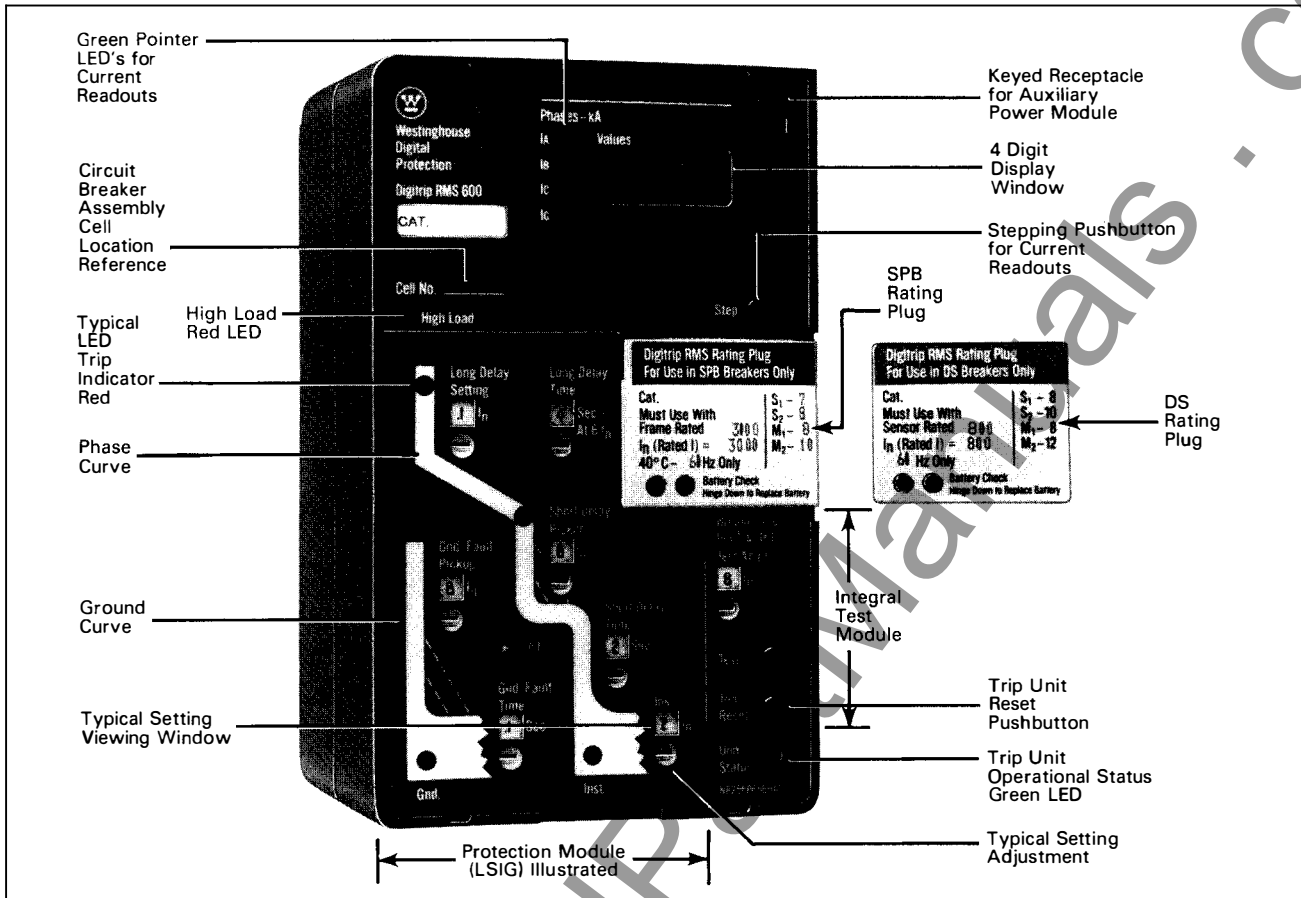

Fig. 1 Typical Digitrip RMS 600 Trip Unit with Rating Plug Installed
The Digitrip RMS 600 Trip Unit, illustrated in Fig. 1, is a micro-processor based type trip unit suitable for use in type SPB Systems Pow-R circuit breakers and types DS and DSL low voltage AC power circuit breakers and Series C® R-Frame molded case circuit breaker.
In addition to the protection function, the Digitrip RMS 600 Trip Unit is equipped with a four-digit, alpha-numeric readout display, three phase and one ground (when supplied) current pointer green LEDs along with a stepping pushbutton as illustrated in Figs. 1 and 2. A Power/Relay module is included to provide control power for operating the readout display and internally mounted signal relays. The signal relays provide contacts for three remote mode of trip indicators (long delay, short circuit, ground fault) and a High-Load remote alarm.
A red colored LED, as shown in Fig. 1, indicates that the load current through the circuit breaker has reached 85% of the preset value of the Long Delay Setting. The High-Load LED will turn "On" and the High-Load relay, located internally in the Power/Relay module shown in Fig. 4, will pick-up after an approximate 40 second delay. This delay allows the alarm to ride-through a momentary high-load condition thus avoiding nuisance alarms.
The four-digit alpha-numeric readout display window, illustrated in Figs. 1 and 2, serves two basic purposes: instrumentation and mode of trip or trouble indication.
Normal service messages are those that serve the ammeter instrumentation function. In Fig. 1, four green colored LEDs serve a pointer function, i.e., phase A current (I_A), phase B current (I_B), phase C current (I_C) and ground current (I_G). The ground current LED will be included only if integral ground fault protection is included as an integral part of the trip unit protections functions.
1. The Long Delay Trip LED will turn "On" (see Fig. 1)
2. The coded message LDT will appear in the Display Window (see Fig. 1)
2. Depress Stepping Pushbutton twice (see Fig. 1). This action will clear the coded cause of trip message in the Display Window.
3. View value of phase current in Display Window (see Fig. 1) e.g., 1.50 (in kA).
Note: The phase current shown will be that referenced by the Pointer LED (see Fig. 1) that is turned "On," assume "I_A". (It may not be the faulted phase).
5. Reset the trip unit by depressing the "Trip Reset" pushbutton (see Fig. 1). All coded messages and current values in the display window, the cause of trip LED and the signal relay in the Power/Relay module will turn "Off".
1. The "High-Load" LED (Fig.1) would have been turned "On" if the overload condition had existed for 40 seconds or longer.
3. The Long Delay LED (Fig.1) would have been flashing "On" and "Off".
Assume a high-level fault above the instantaneous trip setting – Assume $8 \times I_n$ – (see Fig. 1). Following the trip operation, the following will occur:
1. The Instantaneous Trip LED will turn "On" (see Fig. 1).
2. The coded message INST will appear in the Display Window (see Fig. 1).
2. Depress Stepping Pushbutton (see Fig. 1). This action will clear the coded cause of trip message in the Display Window.
3. View value of phase current in Display Window (see Fig. 1) e.g., 12.0 (in kA).
Note: The phase current shown will be that referenced by the Pointer LED (see Fig. 1) that is turned "On" (It may not be the faulted phase), assume "IA".